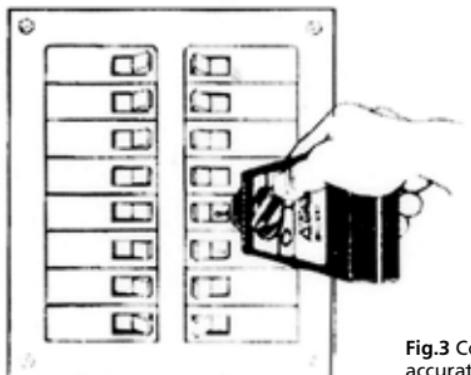

Fig.3 Correct the angle of the probe for accurate readings
9. Touch the receiver's tip to each circuit breaker as shown in Fig.3